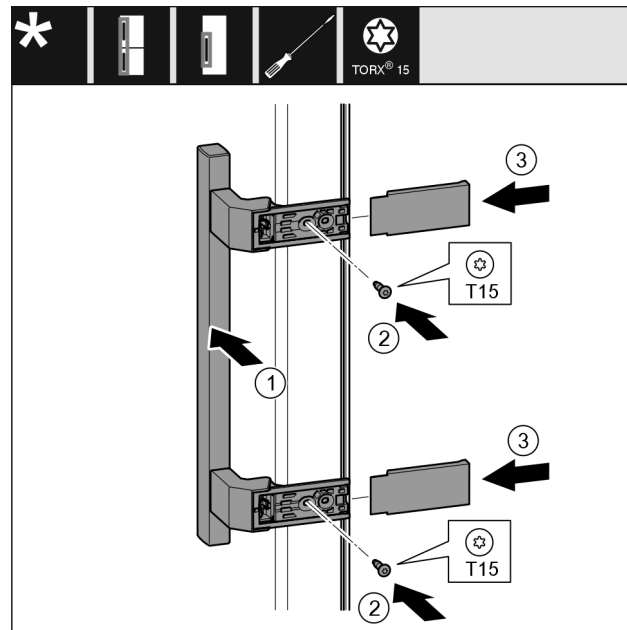

Fig. 20
- ▶ Place the handle Fig. 20 (1) on the opposite side.
- ▶ Tighten screws Fig. 20 (2) with screwdriver.
- ▶ Place the covers Fig. 20 (3) on the side and push them on.